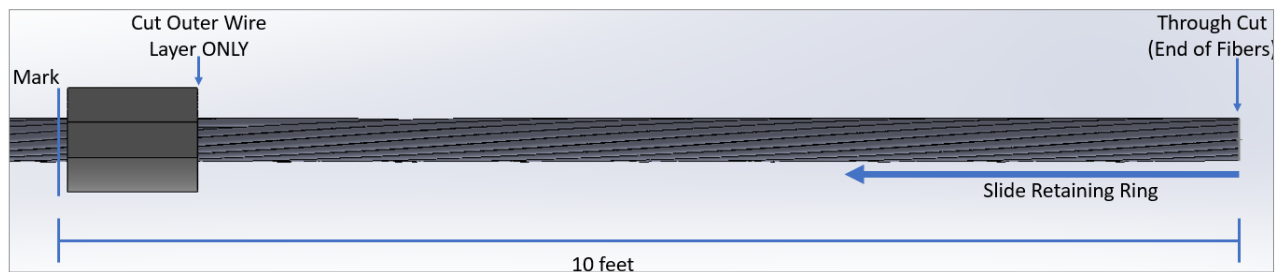

Figure 4
2. Slide the retaining ring onto the cable past the 10 ft marking (**Figure 4**).